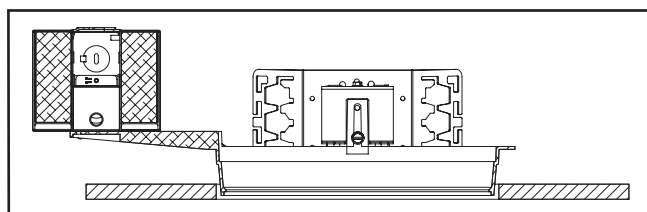

Figure 2.
2. Adjust hanger adjustment screws so bottom of plater ring is 1/8" above ceiling (Figure 2.) finished ceiling line. Hanger bracket is reversible for total adjustment of 5".